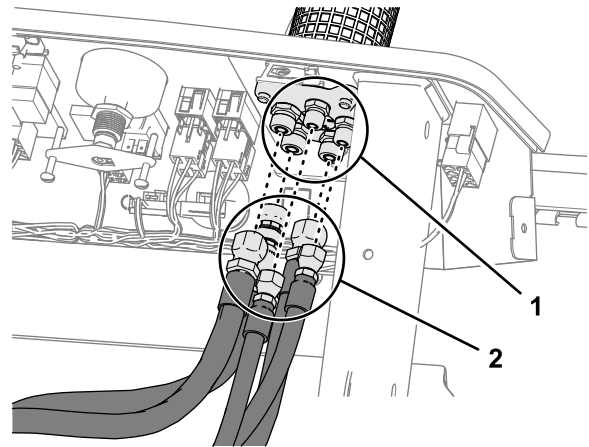

**Figure 46**
- Remove the cable ties that secure the upper and lower covers to the steering hoses, and remove the covers (Figure 46).